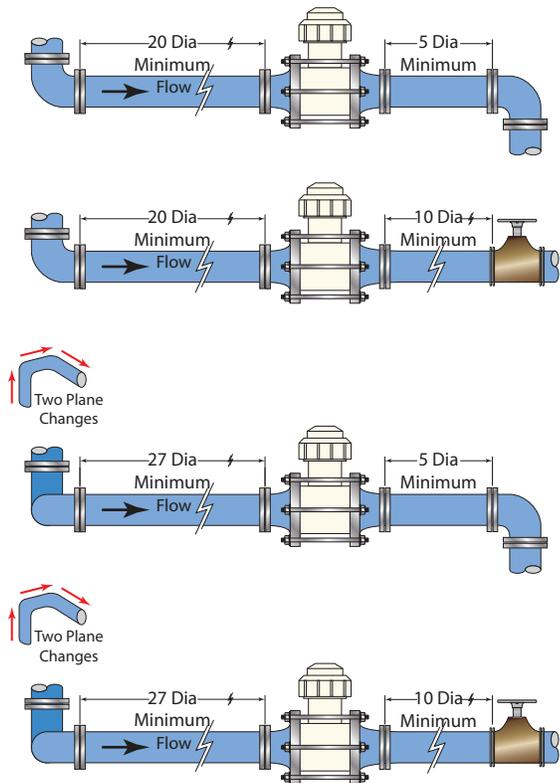
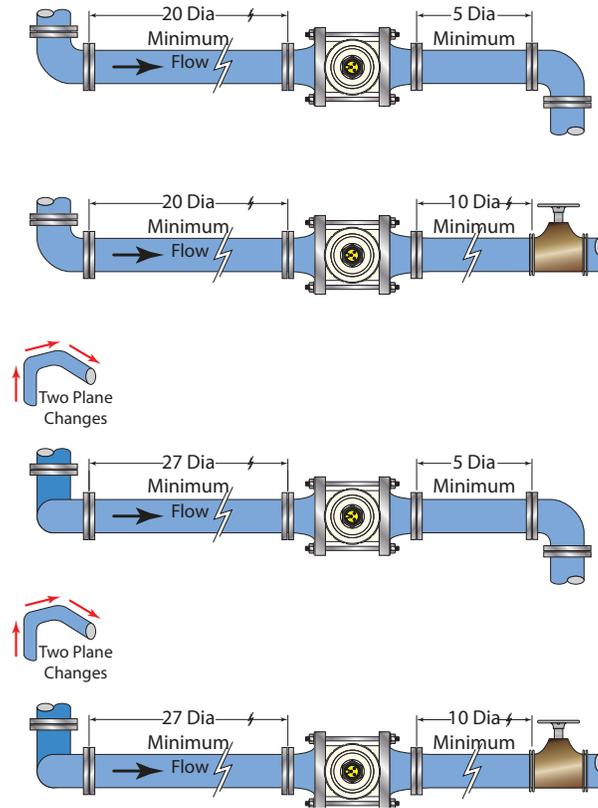
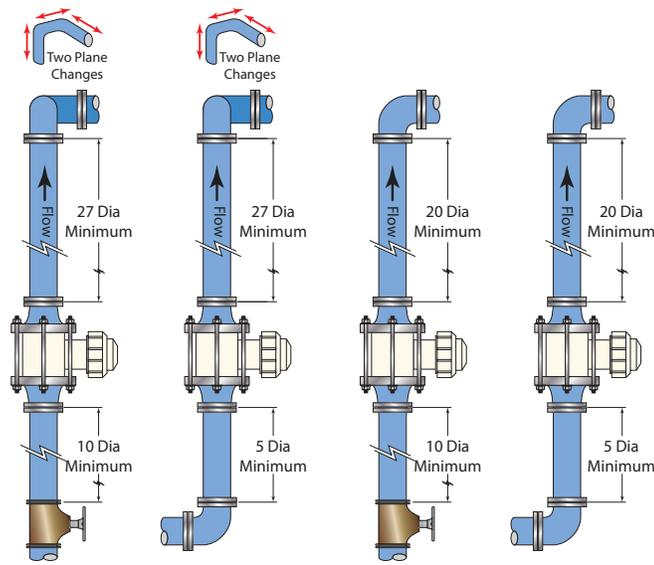
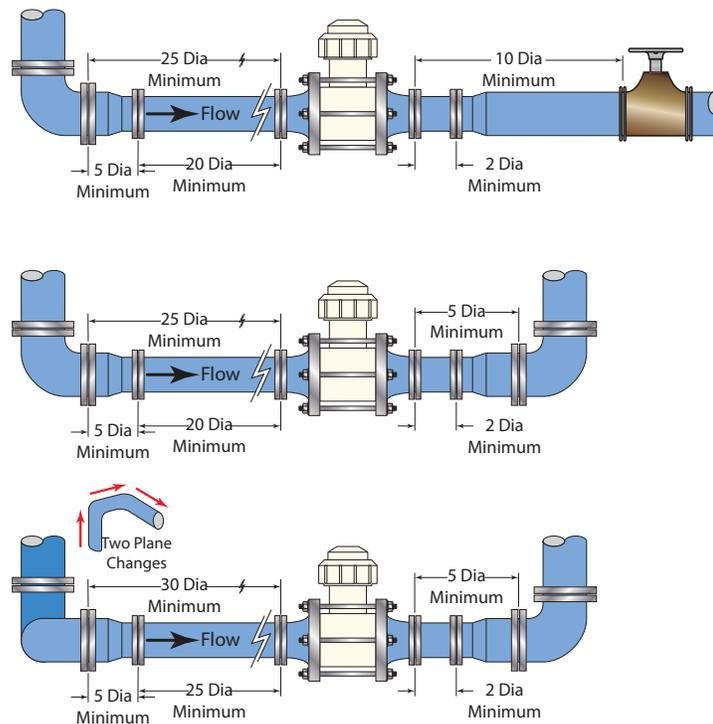

Figure 2: Horizontal flow with sensing element in vertical orientation
Figure 3: Horizontal flow with sensing element in horizontal position
Figure 4: Vertical flow with a change in direction or valve
Figure 5: Horizontal flow with a change in pipe diameter
Turbulence in the pipeline can affect the accuracy of flow meters. Typical sources of turbulence are pumps, valves, change in pipe diameter or changes-in-direction in the line. Install the meter away from the turbulence source to avoid turbulence issues. These distances are indicated in Pipe Diameters (PD). For example, 10 PD is ten times the inside pipe diameter away from the source of turbulence. Follow upstream and downstream distances for all sources of turbulence. See Figure 2 on page 7, Figure 3 on page 8, Figure 4 on page 9 and Figure 5 on page 9 for proper piping distance requirements.